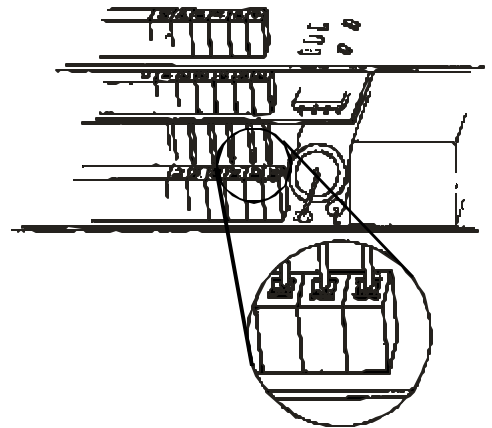

Figure 14: Lining Up The Pins Before Pressing The ProtoSound Boards Together
4) Carefully align the pins from the combination ProtoSound and PS-1 board into the socket holes on the reverse unit. Be sure that the pins line up in the holes and are correctly centered in each socket as shown in Figure 14. Center the pins on one side of the board, hold in place and then align the pins on the other socket strip. Do not press the boards together yet.